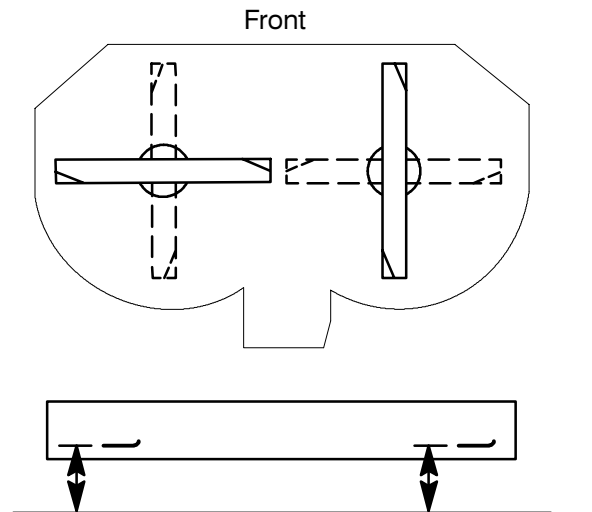

Figure 44
1. Rotate the blades until the ends face forward and backward (Fig. 44). Measure from a level surface to the cutting edge tip of the blades (Fig. 44). Note this dimension.